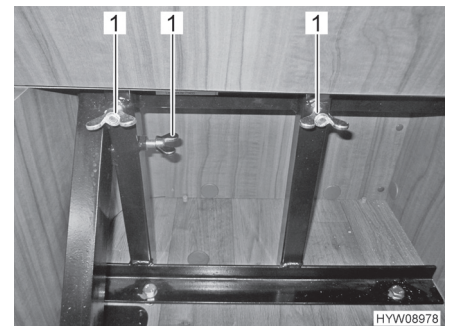

Fig. 24 Secure the attachable seat with wing nuts
- Secure the attachable seat with wing nuts (Fig. 24,1).